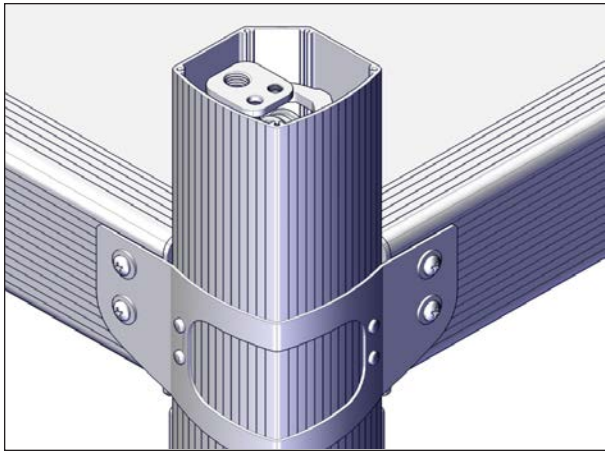

FIGURE 88: INTERNAL JACK
6. Raise the jacks with the key switch. The four internal jacks will raise but the cover panels should stay in place, see Figure 88.